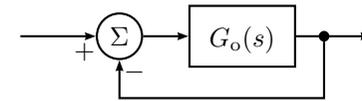

Figure 3.6a
3.6 Draw a root locus with respect to K for the system in Figure 3.6a, with $G_o(s)$ given below. For which values of K are the systems stable? What conclusions on the principal shape of the step response can be drawn from the root locus?